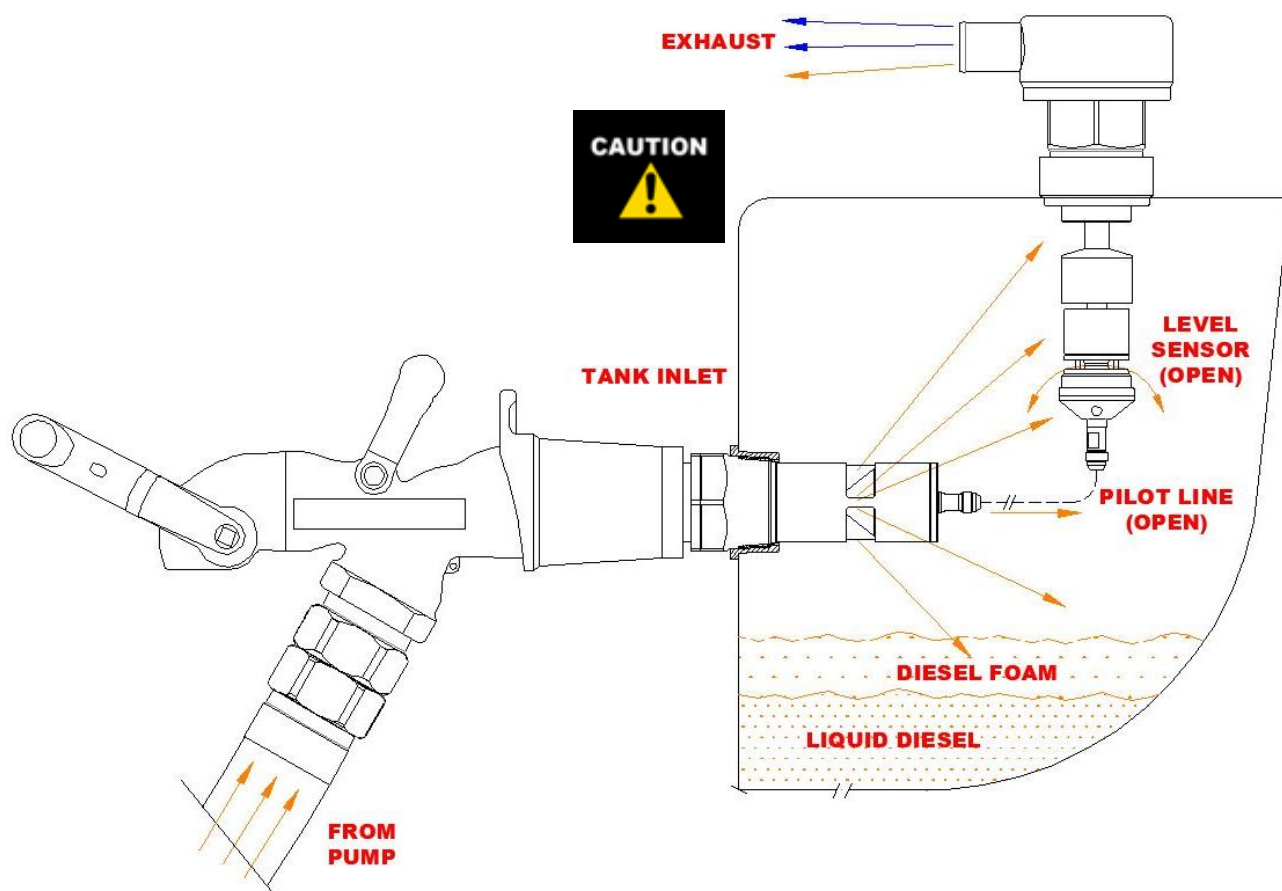

Figure 12 - Fuel Discharge Impacting Level Sensor (BVLS series shown)
- a. Figure 12 illustrates the Valve discharge impacting the Level Sensor or Tank Vent(s). This situation should be avoided as it may cause;